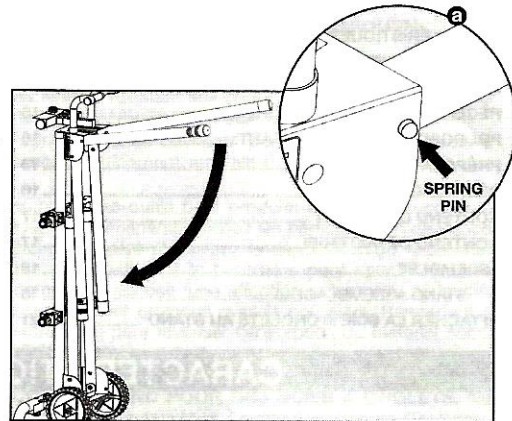

FIGURE 18
4. Position stand in the vertical position and collapse legs on handle end of stand. See Figure 18 & 18a. Stand is now ready for transportation.